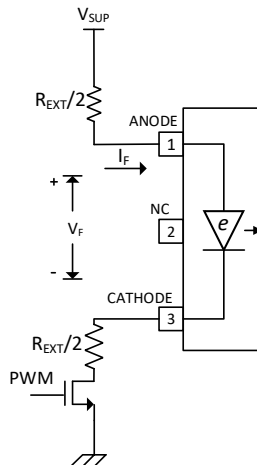
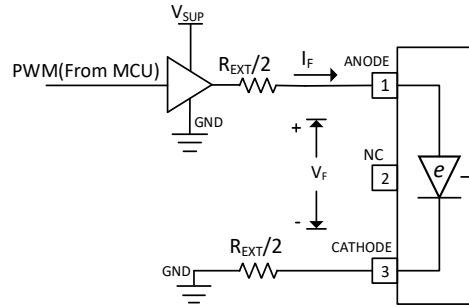
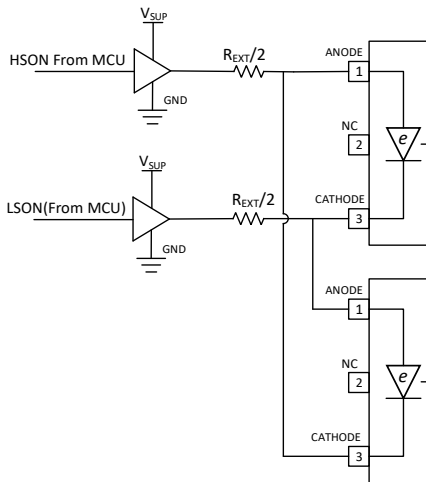

Figure8.2 NSI68515 typical application circuit with NMOS driving input stage
Figure 8.3 NSI68515 typical application circuit with one buffer driving input stage
Figure 8.4 Interlock Protection using NSI68515
NSI68515 requires 7mA to 16mA bias current that flows into the e-diode for normal operation. The PWM from MCU is not suitable to provide such current directly and external circuit is needed. In Figure 8.2, one NMOS is used with split input resistors. Another input drive method is using one buffer, as shown in Figure 8.3.
The recommended forward current range for NSI68515 is 7mA to 16mA. The value of input resistor, buffer supply voltage and buffer internal resistance influence the forward current, as shown in Equation (1). In Figure 8.2, R_{Buffer} is the on-resistance of the external NMOS. In Figure 8.3, R_{Buffer} is the buffer output impedance in output “High” state. In Figure 8.4, R_{Buffer} is the summary of buffer output impedance in “High” and “Low” state.
The parameter variation needs to be taken into consideration when selecting input resistor. Take Figure 8.2 as an example, Table 8.1 lists assumed parameter variation in this example.